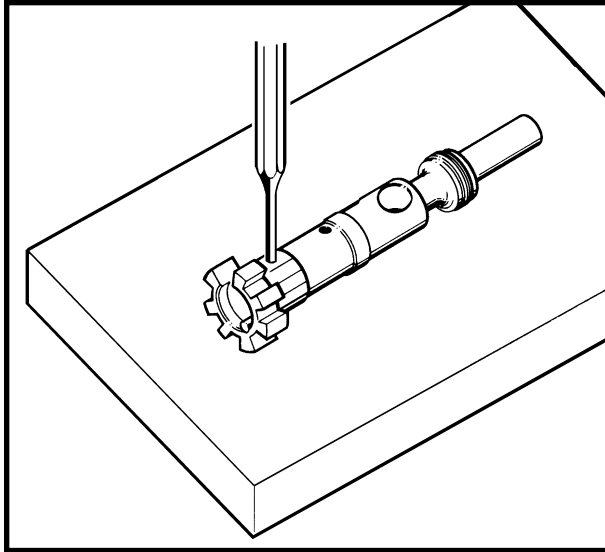

Figure 3-2-32 Removing the Ejector Spring and Ejector
- b. The ejector and ejector spring are not removed except to replace defective or damaged components. See Figure 3-2-32.